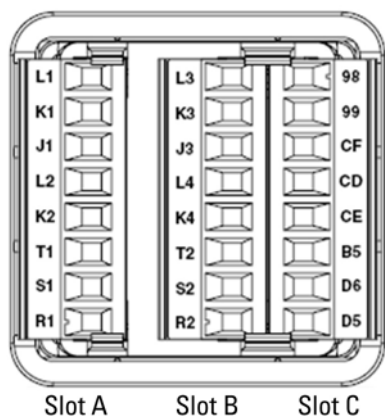

Figure 2. EZ-ZONE PM6 rear terminal connections
- Figure 2 shows the controller's rear termination.